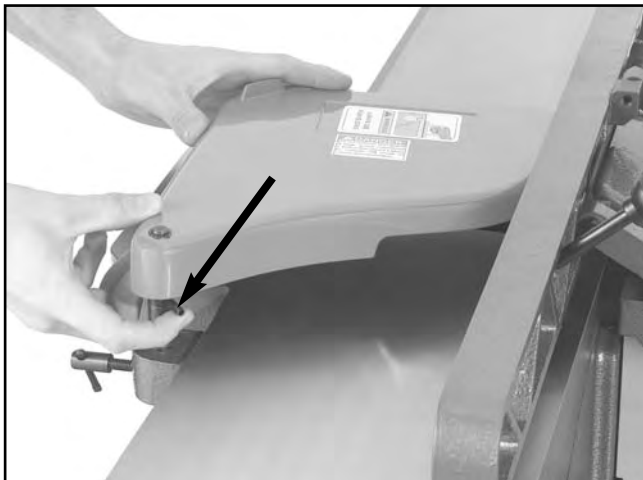

Figure 36. Installing cutterhead guard while holding spring tang.
3. Keep tension on the spring tang and install the shaft into the shaft housing on the front of the infeed table as shown in **Figure 36**.